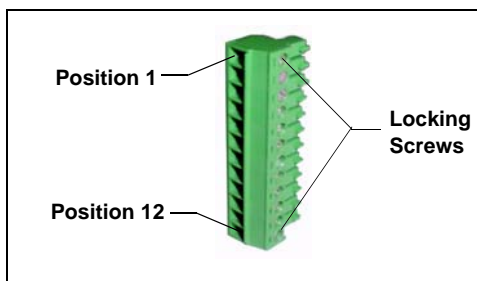

Figure 109. 12-Position Connector Plug
6. Locate the 12-position connector plug (P/N 923686) in the ICS-2000 Ship Kit (P/N 064375) (see Figure 109).